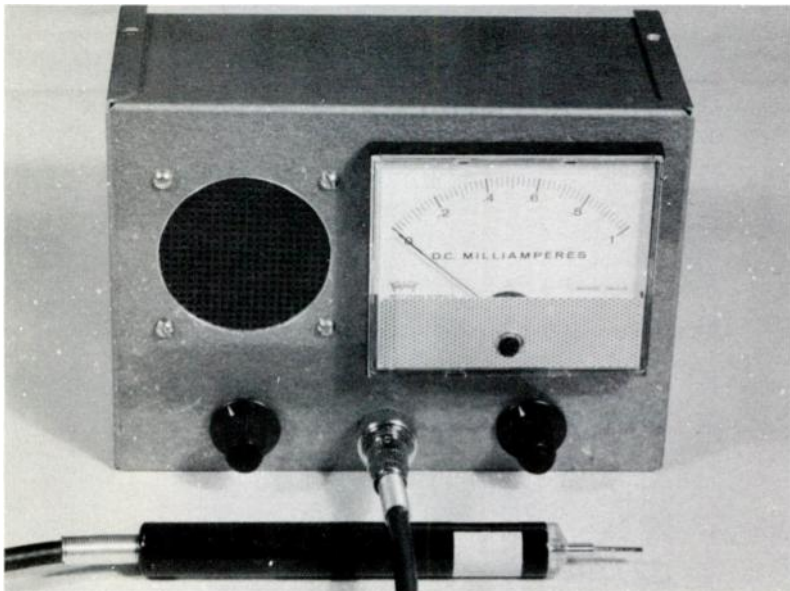
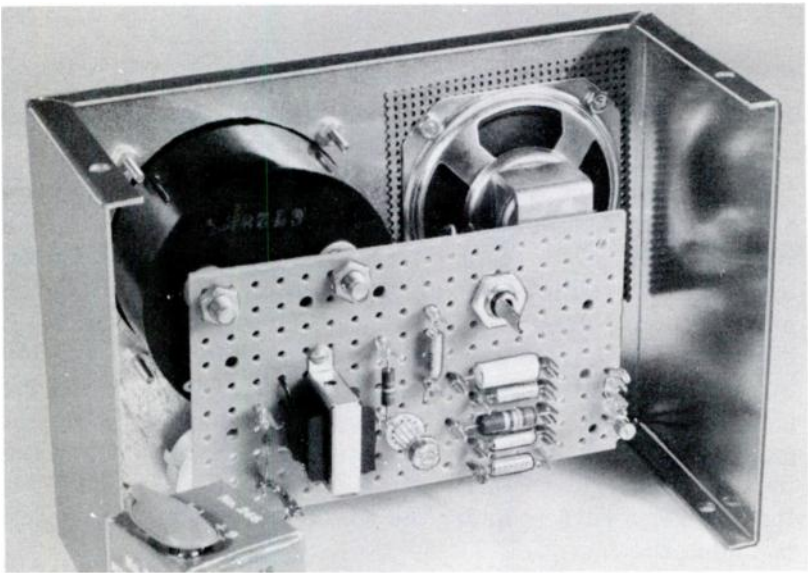

Fig. 7-1. Overall view of the AF-RF signal tracer.
Fig. 7-2. Inside view of the signal tracer.
Fig. 7-1 is an outside, overall view of the signal tracer with one of the two test probes plugged in. Fig. 7-2 shows the inside
This instrument is built in a 7-inch x 5-inch x 3-inch gray hammertone aluminum box (Bud CU-2108-A *Minibox*, Allied No. 736-3641). The meter is a 3½-inch rectangular 0-1 DC milliammeter (Allied No. 701-0020) and the speaker a 3-inch unit (Allied No. 40 B 1201). The circuit is wired on a 2¾-inch x 4¾-inch perforated board which is supported by the two ¼-inch terminal screws on the back of the meter (Fig. 7-2). All components are on this board, except gain-control potentiometer R1, speaker switch S2, and input jack J1, which are on the front panel. (In Fig. 7-1, the speaker switch is under the speaker, and the gain control is under the meter.)
pull power output). An outboard 2N4340 field-effect transistor (FET), Q1, has been inserted as a source-follower between input jack J1 and the IC, to provide high input impedance for negligible loading of a circuit under test. (The net input impedance is approximately 1-megohm, the resistance of potentiometer R1.) The leads of the FET are soldered to three push-in terminals on the board (Fig. 7-5A); no transistor socket is required. The circuit draws 13 mA at zero signal, and 88 mA at maximum signal. At this drain, the heavy-duty 9-volt transistor battery seen in Fig. 7-2 will be satisfactory for
The main circuit is assembled on a $2\frac{3}{4}$ -inch x $4\frac{3}{4}$ -inch piece of perforated phenolic board (Allied No. 977-0923). Figs. 7-1, 7-5A, and 7-5B show layout of components on this board. All resistors and capacitors except R3, as well as diode D1 and transistor Q1, are soldered above board to Vector T9.4 push-in terminals (Allied No. 977-1206) which are simply pressed into the holes of the board. Resistor R3 is soldered between terminals 14 and 15 under the board, as shown in Fig. 7-5B. Potentiometer R6 and the IC socket (Augat 8058, Allied No. 718-0285) are mounted in $\frac{3}{8}$ -inch diameter holes drilled in the board. The board is held by the terminal screws of the meter. All wiring is under the board. On the front panel are mounted potentiometer R1 (and its ON-OFF switch, S1), input jack J1, meter M1, speaker SPKR, and speaker switch S2. Numbers on Figs. 7-5B and 7-6 show how connections are made between the board and these components.
6. Assemble and wire the two test probes, attaching a concentric plug on the end of each shielded cable (one plugged-in probe is shown in Fig. 7-1).